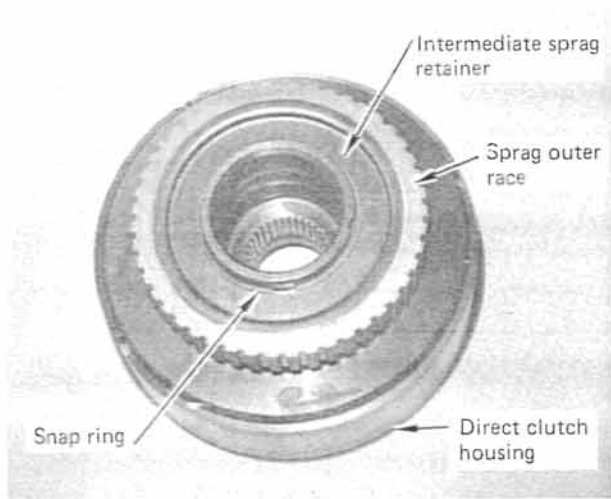
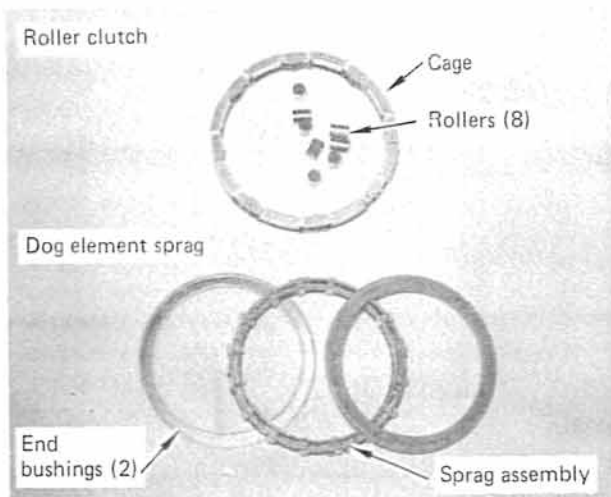

FIGURE 23
FIGURE 24
**STEP 3:** Turn the housing over and remove the intermediate overrunning clutch retainer and the intermediate overrunning clutch. (See Fig. 23) There are two types: The more common dog element sprag with end bushings or the late model eight element roller clutch. (See Fig. 24) The rollers may be removed from the cage for cleaning so they don't get lost. Do not remove elements from the dog-type clutch. The direct clutch assembly is now ready to clean.